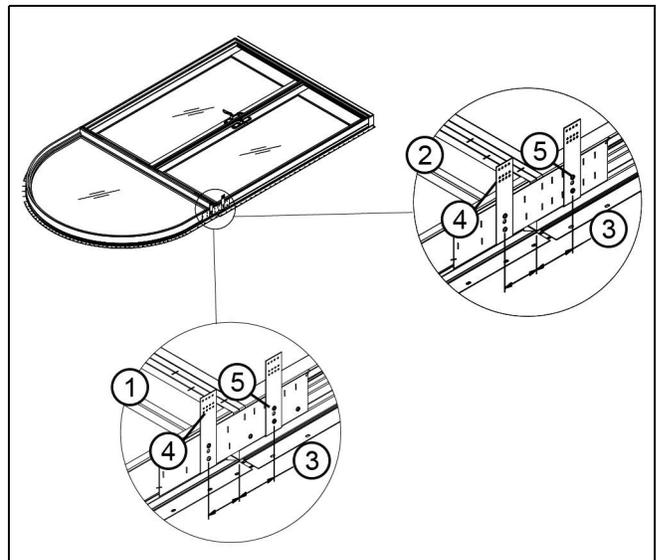

Figure 45
10. Attach two structural brackets on both sides of the unit with #7 x 5/8" flat head wood screws; one 4" (101) on each side of the mull joint. See Figure 45.